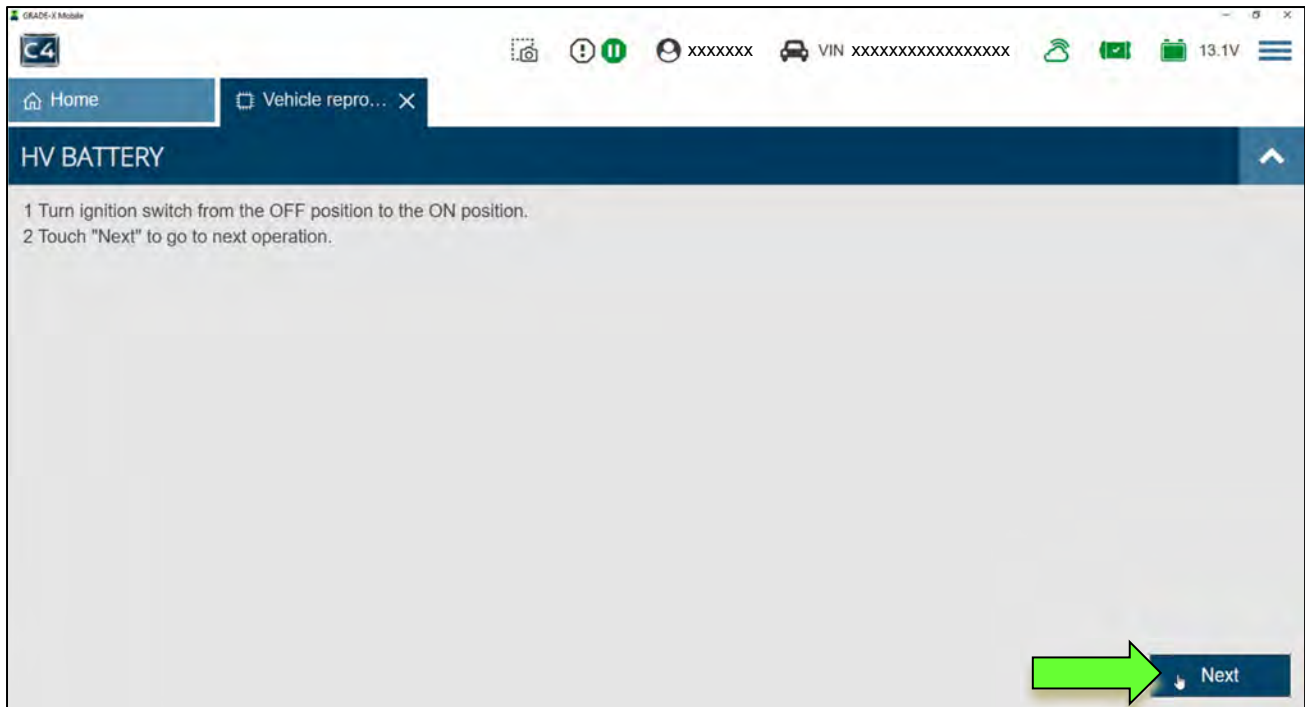

Figure 39
61. When the screen in Figure 39 is displayed, select **Next**.